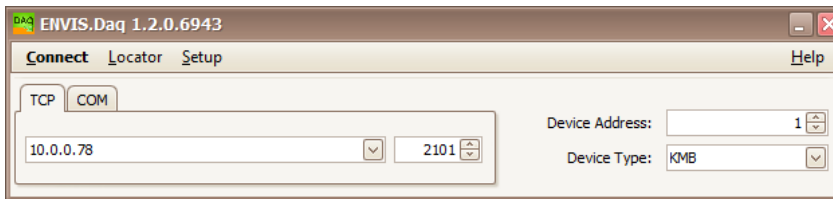

Figure 8: Main window of the ENVIS.Daq application - enter communication type, choose its parameters and click *Connect* to continue.
4. Fill in communication line parameters. A connection form with typical parameters is shown in figure 8.